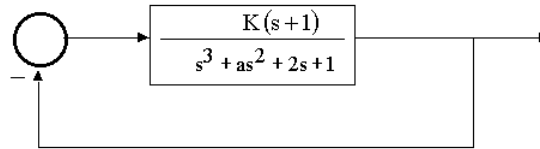

Fig.6
- Q.31** Determine the values of $K > 0$ and $a > 0$ so that the system shown in Fig.6 oscillates at a frequency of 2 rad/sec. (10)